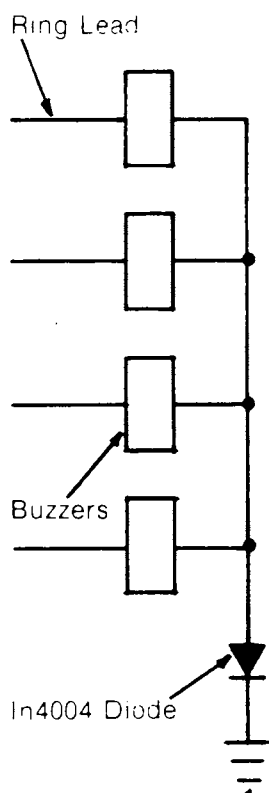

Fig. 3 - Use of Low Voltage Buzzers for Intercom Signaling.
(1) If Low Voltage Buzzers are going to be used for signaling, all buzzer leads will have to be returned to GRD through one common diode such as IN4004 in manner shown in fig. 3.
(2) Diode is not required for high impedance Buzzers (110V 30HZ ringing voltage) or for ringers.